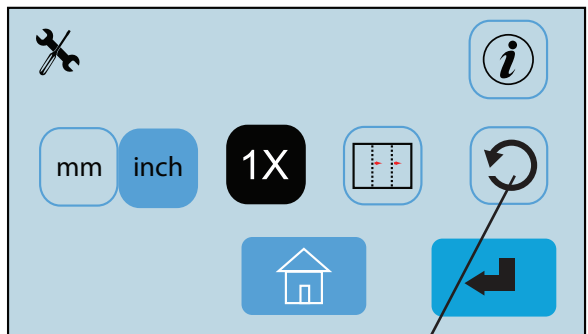
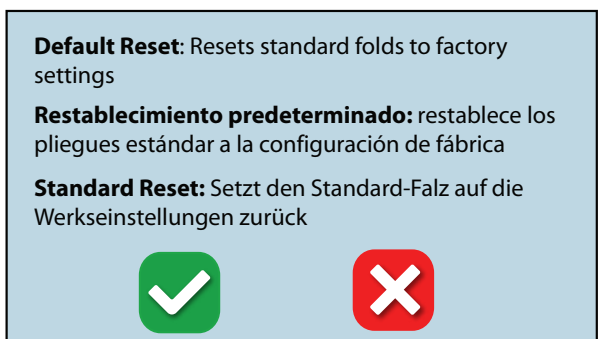

Fig. 37
Fig. 38
1. From the Operator Settings screen press the Default Settings icon  (Fig. 37). A confirmation screen will come up. Press the green box with the check to confirm or the red box with the X to cancel the setting (Fig. 38).